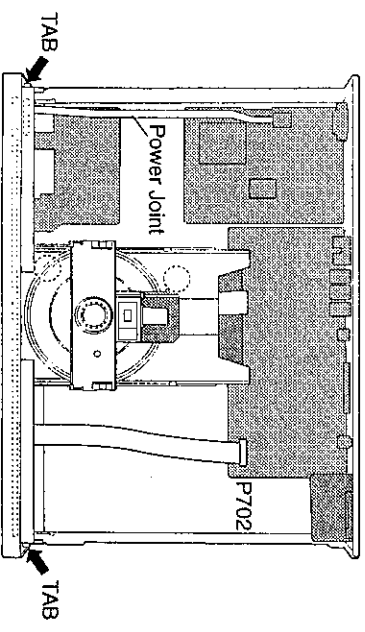

Fig. 2.3.2
- (5) Disconnect the flat cable from the P702 connector on the Output P.C.B. Assy. See Fig. 2.3.2.
- (6) Release the tabs on both sides of the unit and remove the Front Panel Block by gently pulling it forward. The Power Button will be disengaged from the Power Joint.